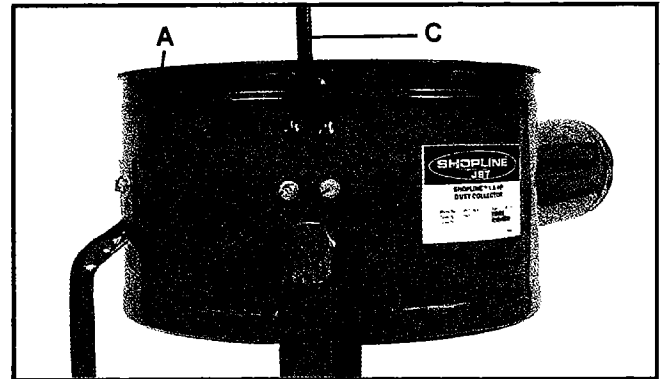

Fig. 5
5. Install the housing (A, Fig. 5) to three support brackets using six M8 x 16 hex cap bolts, twelve M8 flat washers, and six M8 hex nuts (B, Fig.5). Be sure hose opening faces fan housing. Before attaching third support bracket place the hanger bracket (C, Fig.5) between the support bracket and the housing. Tighten all nuts and bolts at this time.